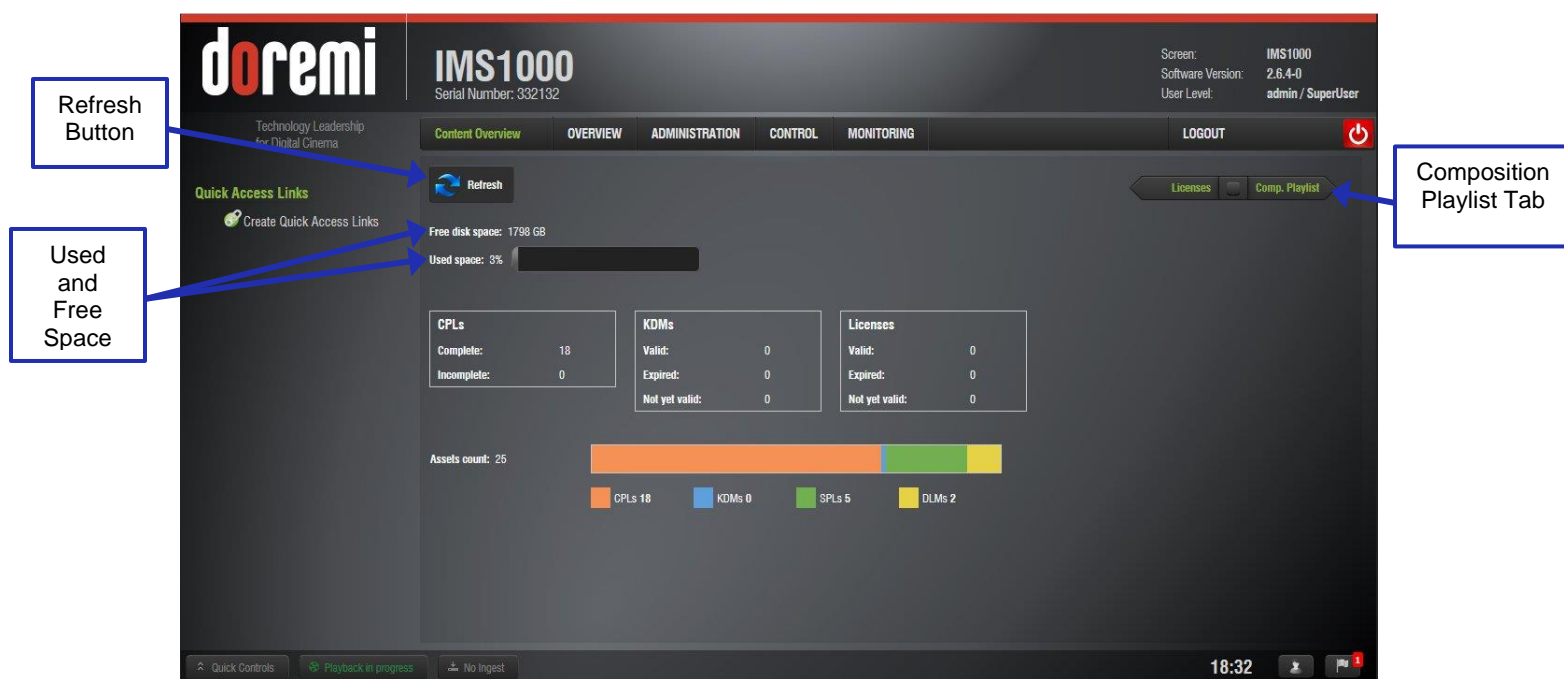
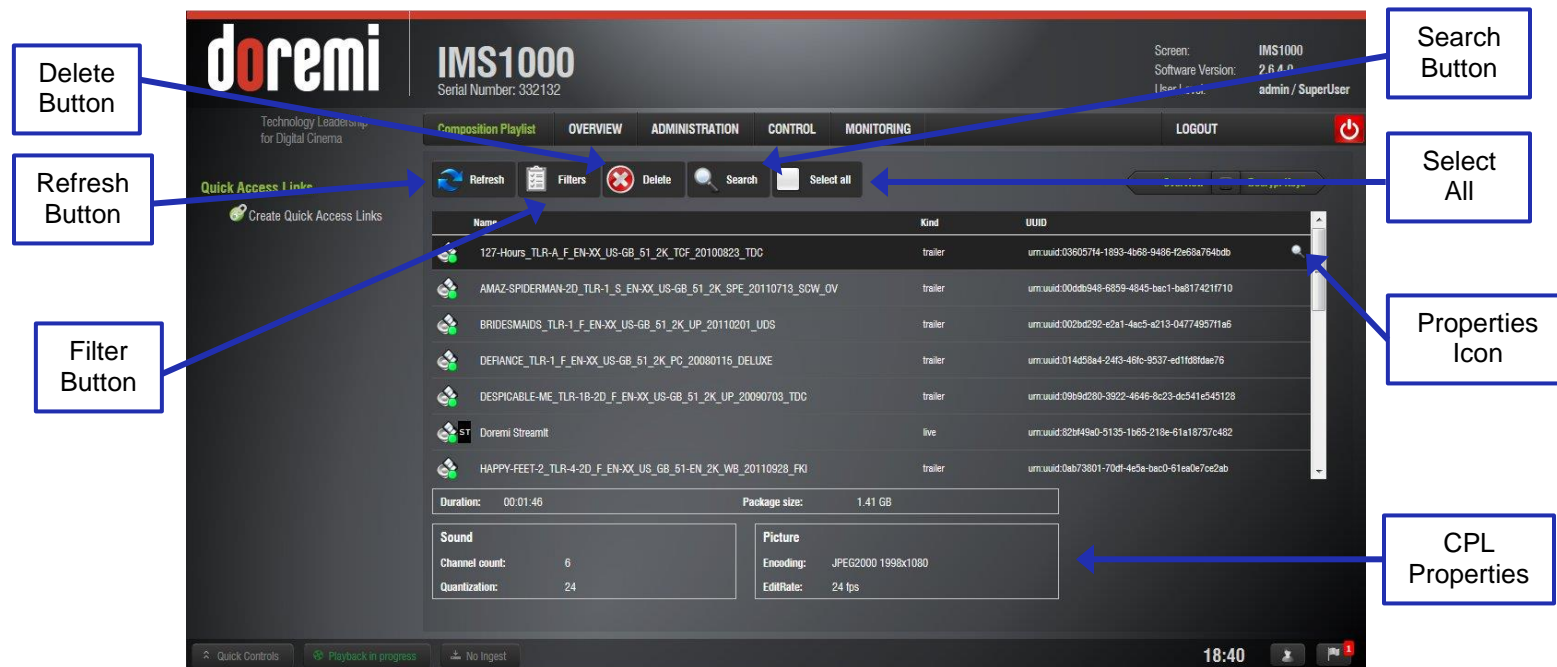

Figure 284: Content Manager Main Tab
Figure 285: Content Manager Composition Playlists Tab
- The Overview tab will appear. To see an updated view of the Overview tab with all available content, click on the Refresh button (Figure 284).
The Overview tab lists all available CPLs, Licenses, SPLs, and KDMs on the unit. It also displays the used and free space available (Figure 284).
The Compositions Playlists tab displays all of the CPLs available on the unit as well as their properties (Figure 285). To access the Composition Playlists tab, click on the green arrow on the right hand side of the GUI in the Overview and Decryption Keys tabs (Figure 284).
To see an updated view of the tab will all available CPLs, click on the Refresh button. To search for a specific CPL, click on the Search button. To filter the CPLs by the type of elements that have been ingested, click on the Filters button. To select or unselect all of the elements, click the Select All button (Figure 285).
To delete a CPL from the server, click on the CPL and click on the Delete button (Figure 285).
Clicking anywhere on the line of a highlighted CPL, or on the Properties icon that appears on the right, will display information about that CPL on the bottom portion of the tab (Figure 285).